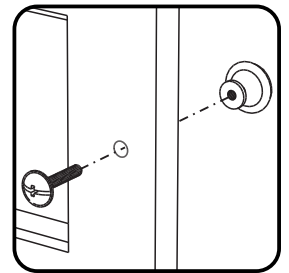

Figure 5
Attach Knobs to Doors (J) and (K) with Machine Screws. (See Figure 5)